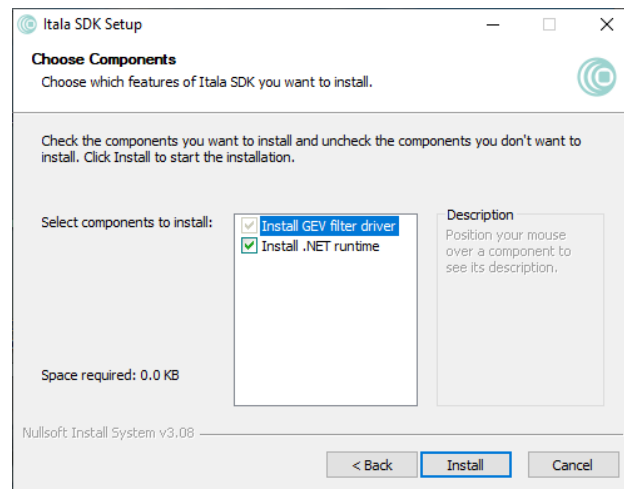

Figure 11: Components selection window.
5. Select the components which need to be installed (Fig.11). In case of installation of the filter driver only, step 6 can be skipped.